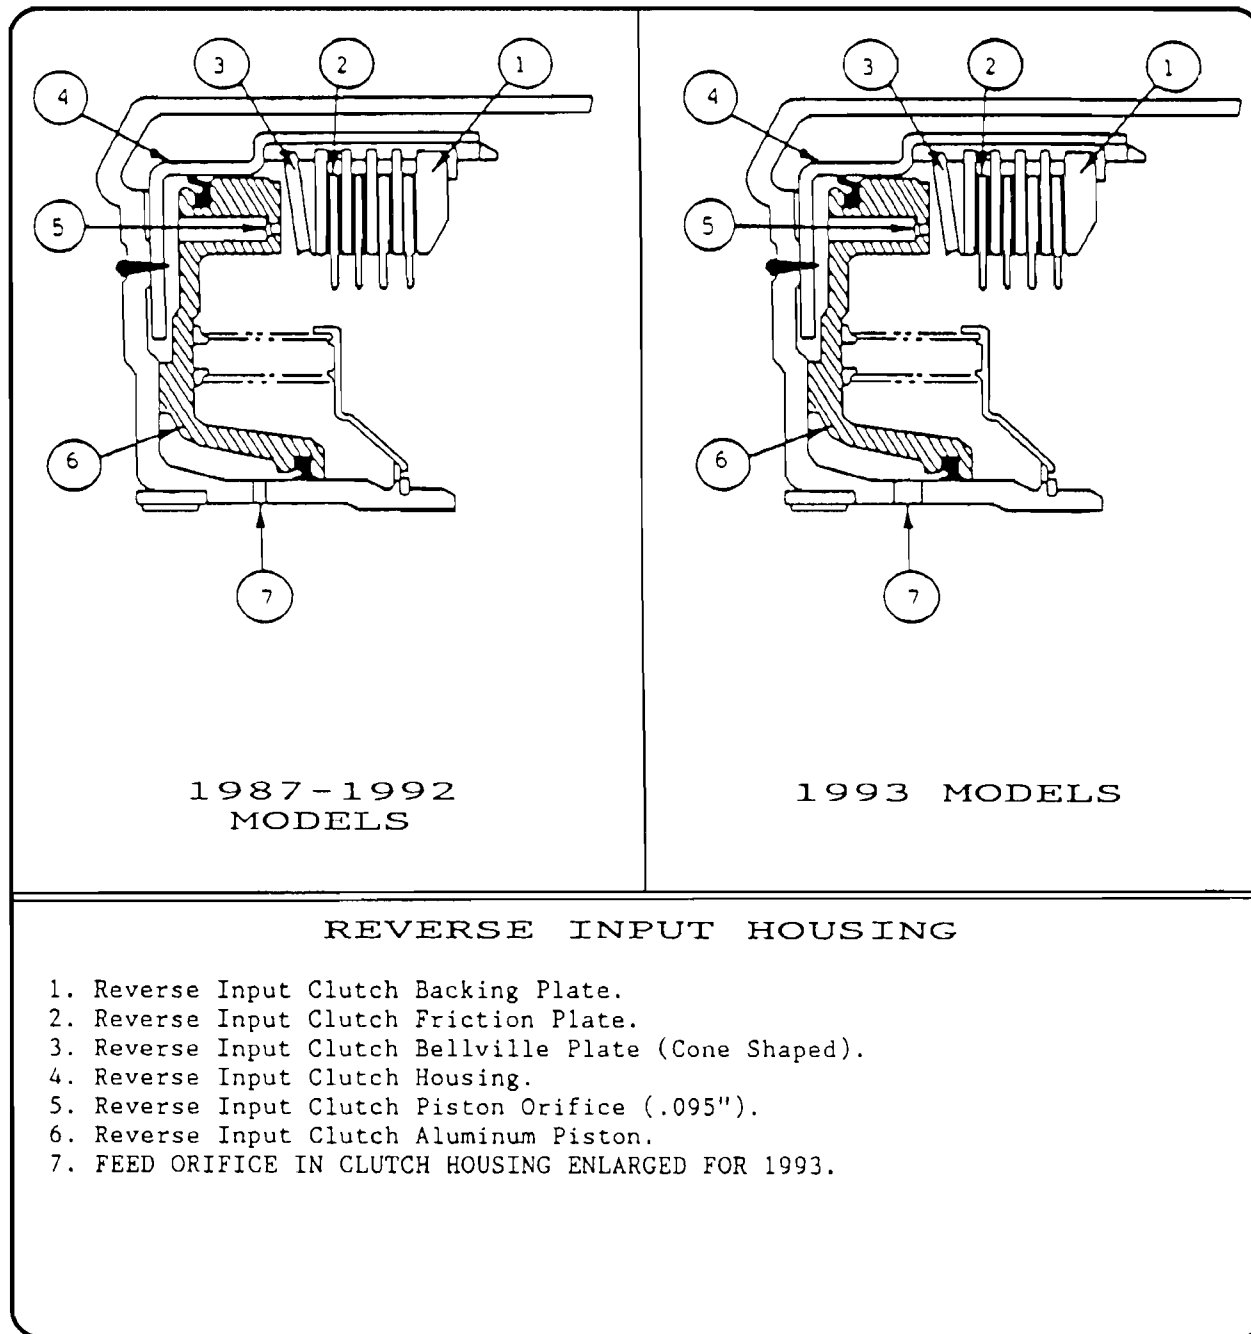

Figure 23
CHANGE: The Reverse Input Housing for ALL 1993 model THM 4L60 transmissions has the oil feed hole enlarged (Large Square Hole), from the previous .095" round feed hole (See Figure 23).
- (1) REVERSE INPUT HOUSING - Feed hole has been enlarged from .095" round hole to large square hole, and this is the ONLY identification as they both require the aluminum piston (See Figure 23).